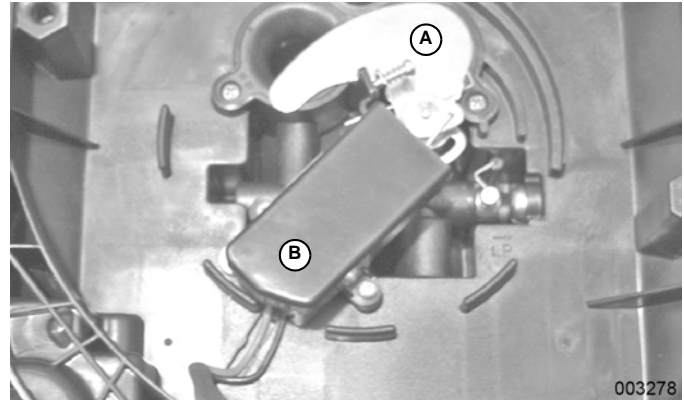

Figure 4-70. Solenoid De-Energized, Choke Closed 12-20 kW Units
12-20 kW: The automatic choke cycles open and closed during cranking and stays energized (choke open) during running. For low speed exercise the choke will remain closed. See Figure 4-70. A choke plate (A) is utilized which covers the throttle bores. When the choke solenoid (B) is de-energized the choke is closed.
See Figure 4-72 for the 10 kW location. See Figure 4-70 and Figure 4-71 for the 12-20 kW Choke location and operation.